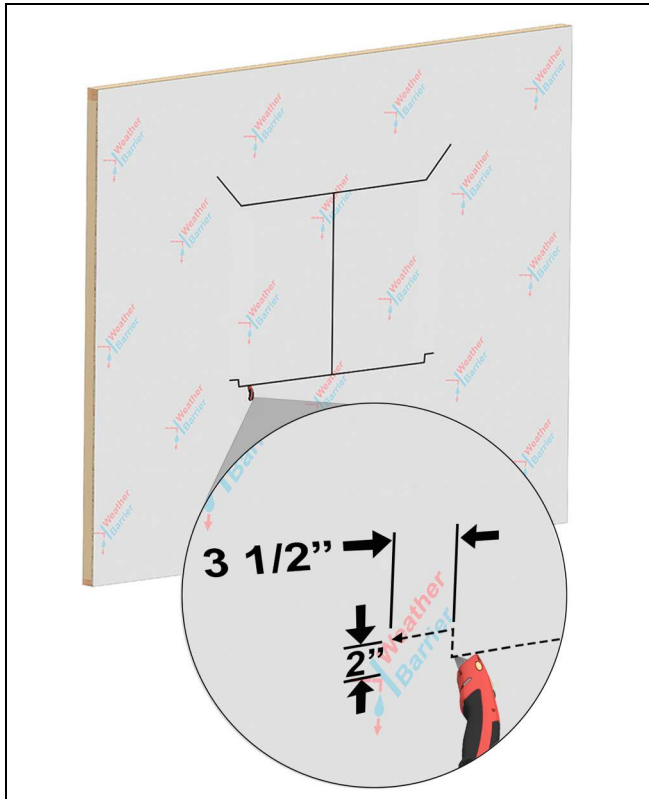

Figure 18
1. Make horizontal cuts to the Weather Resistive Barrier (WRB) across the top and bottom of the Rough Opening. Make a vertical cut down the center of the RO, then make 45 degree cuts away from the corners of the top of the RO. See Figure 18. Trim up from the bottom corners 2" and then make an additional horizontal cut about 3-1/2" wide.